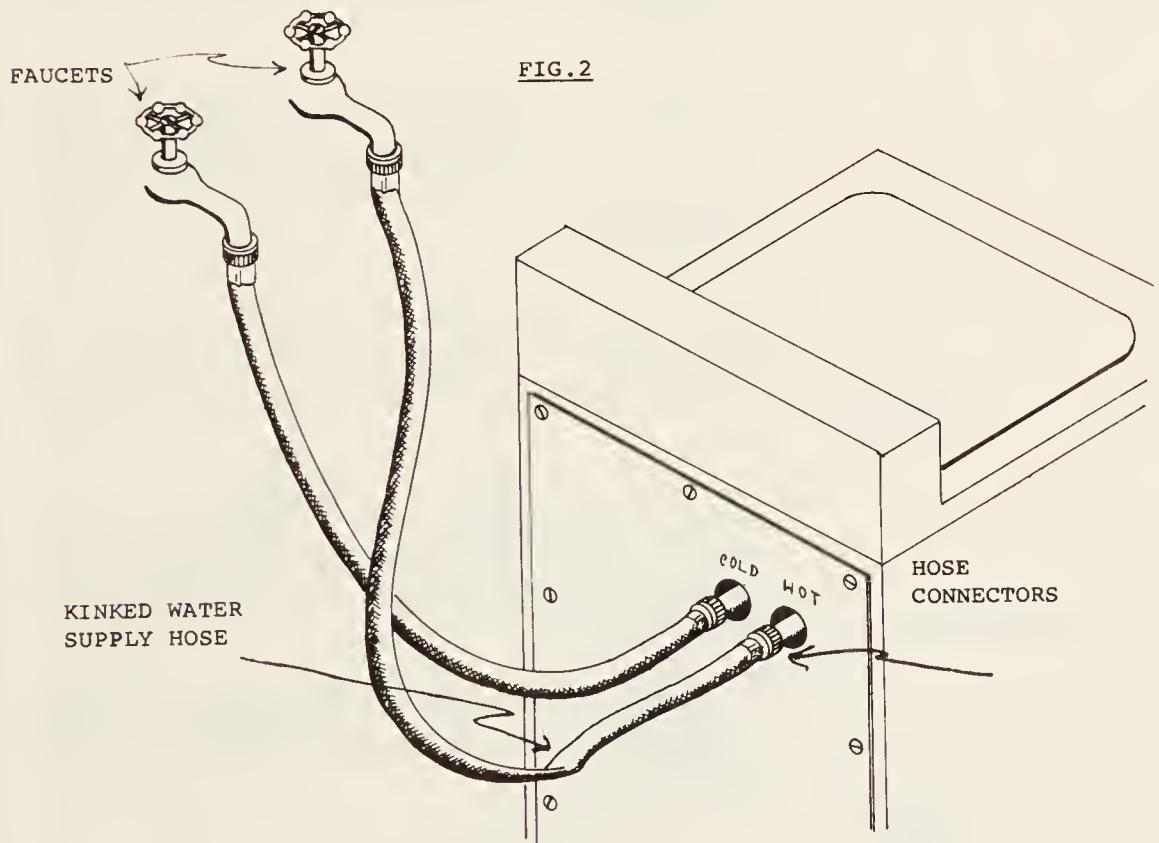

FIG. 2
2. Carefully examine the flexible (rubber) supply hoses located behind the washer for kinks. (*Figure 2*) Hoses must appear round along their entire lengths. If either hose is kinked, reposition the hose to prevent it from bending sharply. (*Figure 2*)
4. To locate the filter screens, follow the rubber water supply hoses from the faucets to the point where they attach to the washing machine. (*Figure 2*) The filter screens are normally located (inside) directly behind the hose connectors and should be removed to be checked.